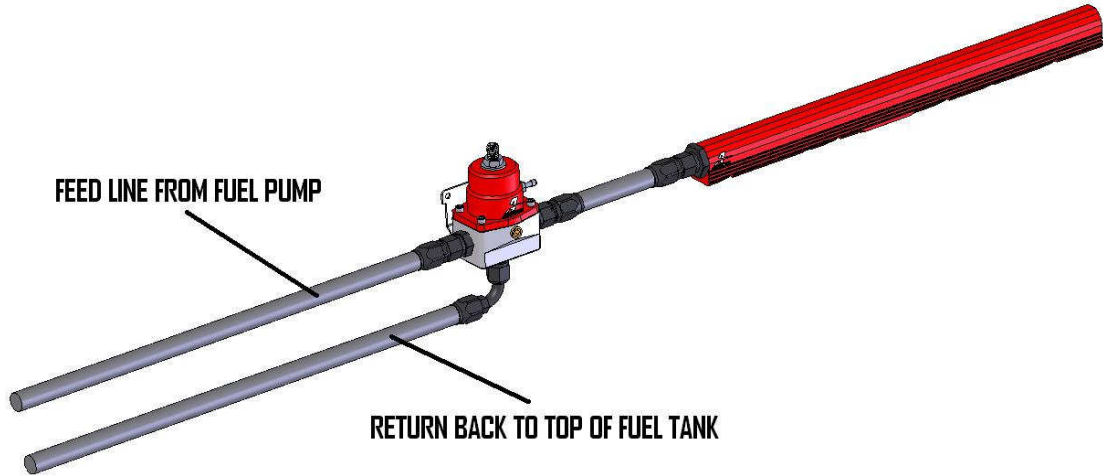

FIGURE 1-1
9. Figure 1-1 depicts a fuel rail with only one fuel line connection, such as is commonly found on OEM factory fuel rails as used in late model “returnless” fuel systems beginning in 1999. Positioning the regulator after the fuel rail is optimum for performance applications, however your new Aeromotive regulator may be configured for a “returnless” type of engine/fuel rail by flowing into one of the regulator side ports from the pump and out of the opposite side port into the fuel rail. A return line must be routed from from the regulator bottom/return port back to the top of the fuel tank.